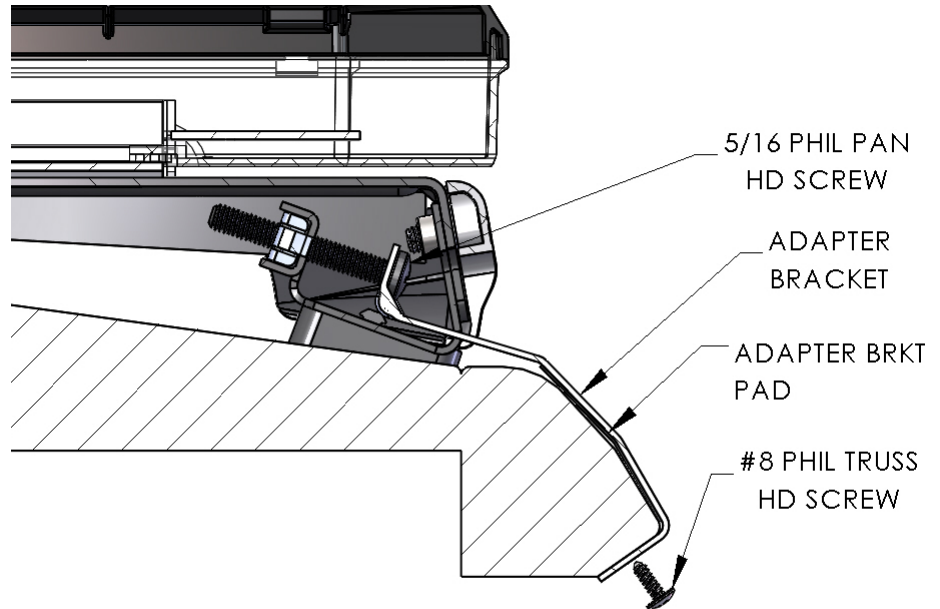

FIGURE 6
7. Fasten the brackets to the vehicle using all the screws provided. See Figure 6 for section view of assembly.